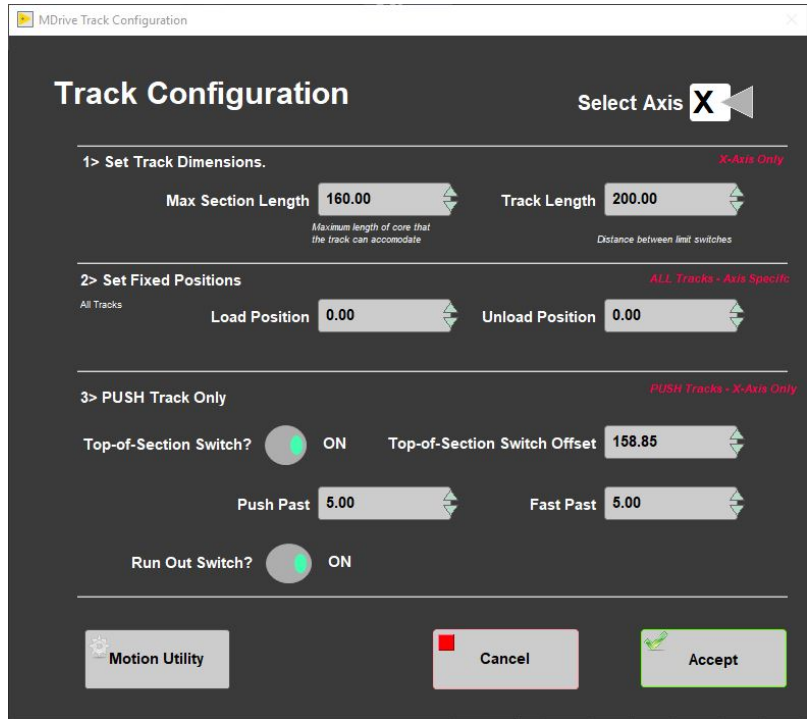

Figure 57 - XMSL Fixed Positions Window
In this window the user may define fixed track locations used by IMS motion control. For the XMSL, make sure to use these value unless there has been a physical change to the system (**Figure 57**).
- Click the **Motion Utility** button to open the Motion Utility window (**Figure 57**) and test the settings.